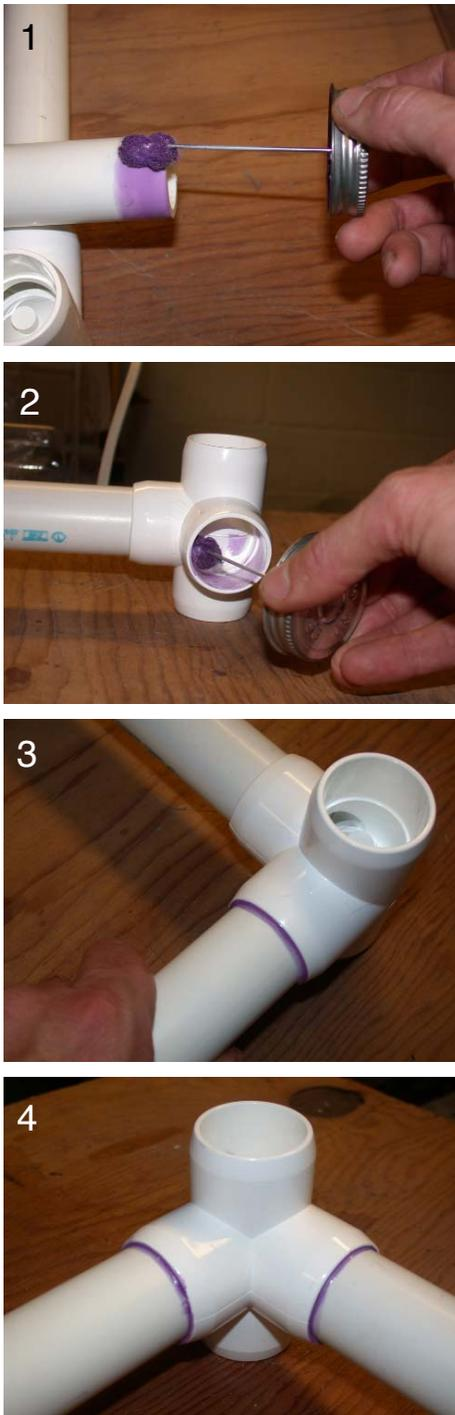

**FIGURE 6: OATEY PURPLE PRIMER & PVC CEMENT.** THE OATEY PRODUCTS PRODUCE VERY STRONG BONDS & SHOULD BE USED IN WELL-VENTILATED AREAS.
**Cementing PVC Pipe:** There are a number of commercial products available for gluing PVC pipe together, but I recommend selecting a product like Oatey PVC Cement (Figure 6). This is usually available in a handy pack, includ-